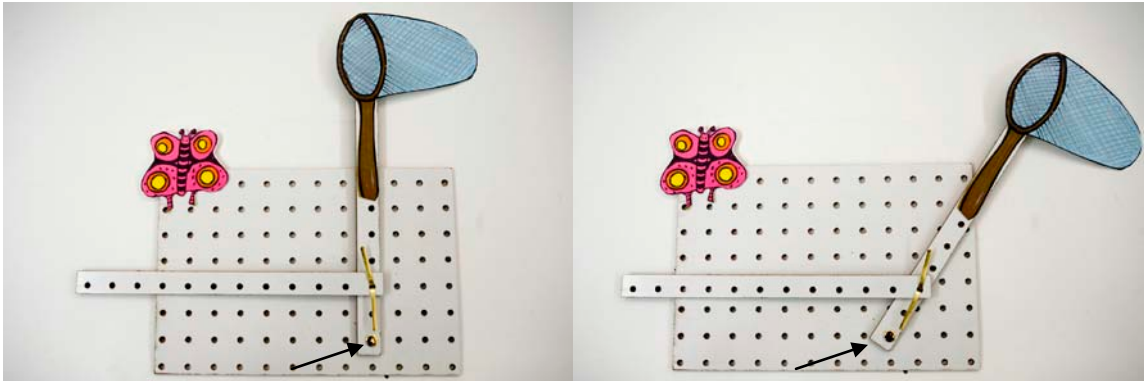

Figure 3: Unhappy Butterfly Net: the floating pivot has ears up the fixed pivot (marked by arrow) is below it
- b. Attach the lever to a base with a fixed pivot *below* the handle. In Figure 3 (left) the fixed pivot is marked by an arrow. Attach the cut outs of the butterfly and net.
- c. Push the input to the right, as in Figure 3 (right), and show the class how the net moves away from the butterfly, instead of towards it.